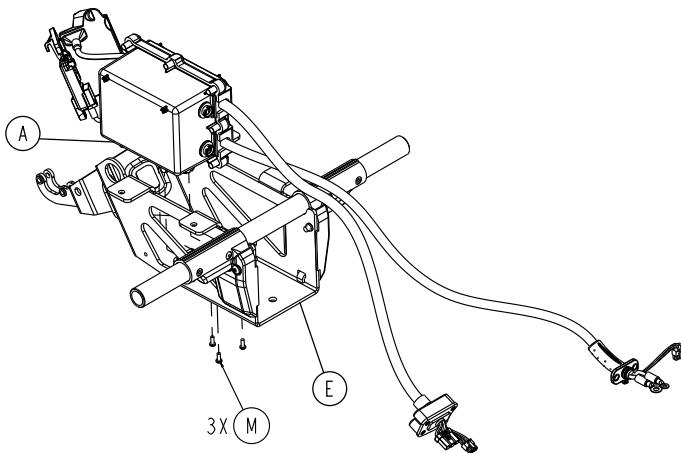

Figure 102 – Remove the HBC enclosure assembly screws
24. Using a T25 Torx driver, remove the three pan head tapping screws (M) that secure the HBC enclosure assembly (A) to the bird cage (E) (Figure 102). Save the screws.